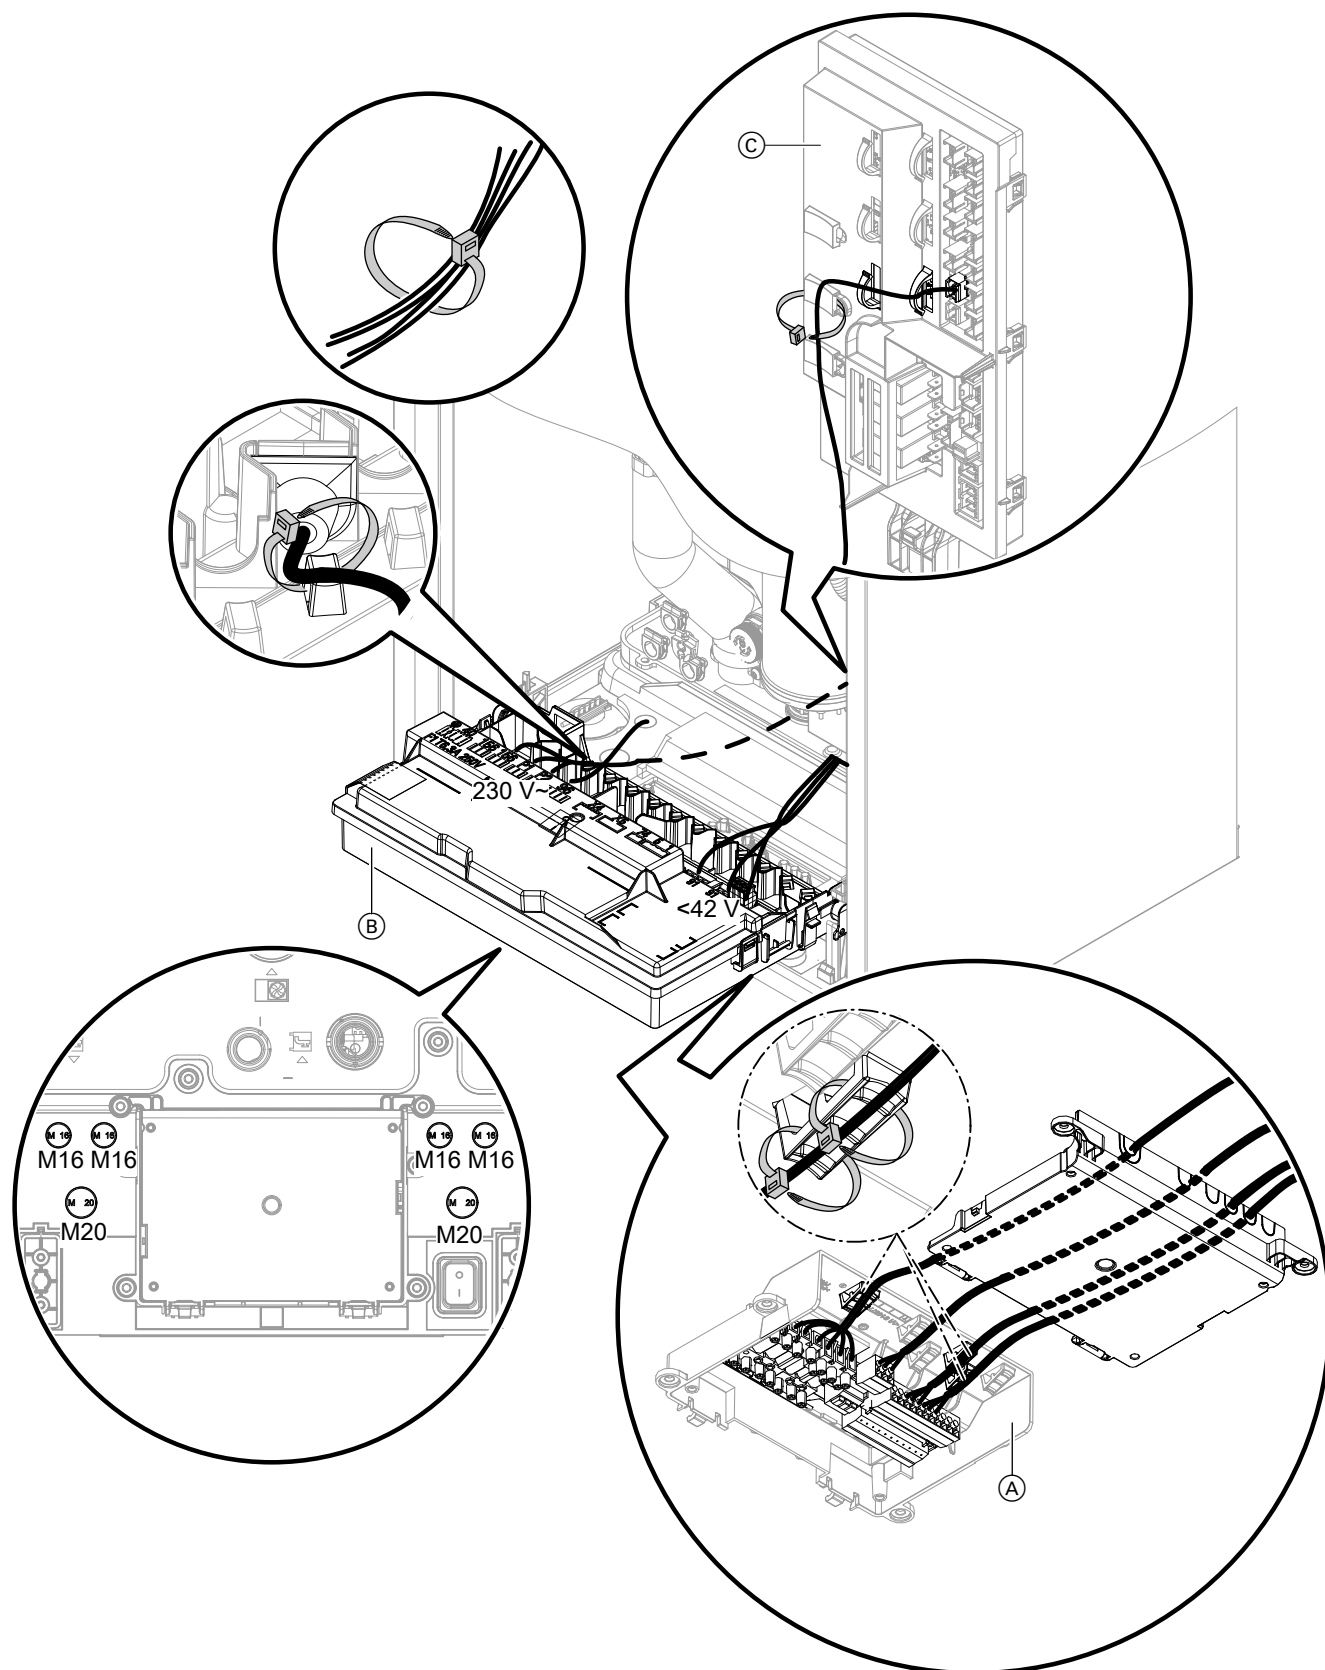

Fig. 44
- Provide strain relief on all cables/leads in the 230 V~ junction box with 2 cable ties: See Fig. 44.